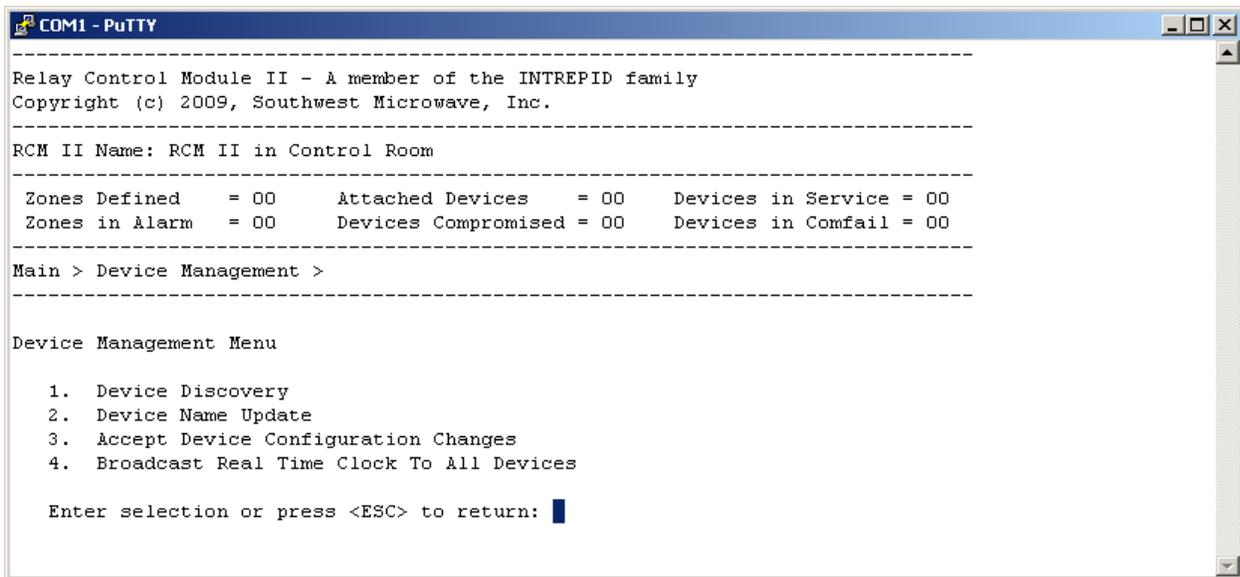

Figure 22 – Device Management Screen
Selecting “2” from the Main Menu will open the “Device Management” menu as shown in Figure 22. There will be four (4) command selections available: